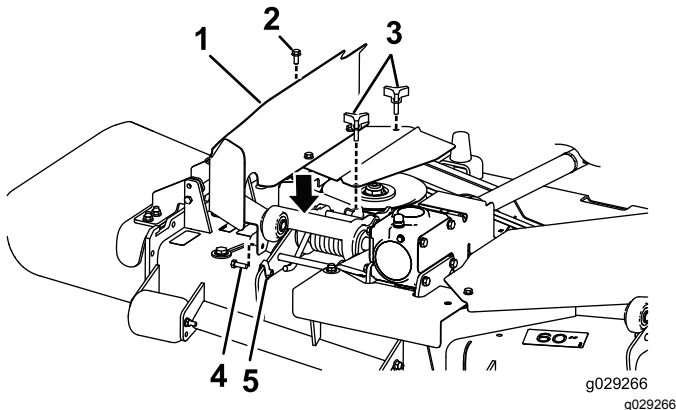

Figure 10
1. **For decks without grass collection system installed:** Install the right shield assembly (Figure 10).